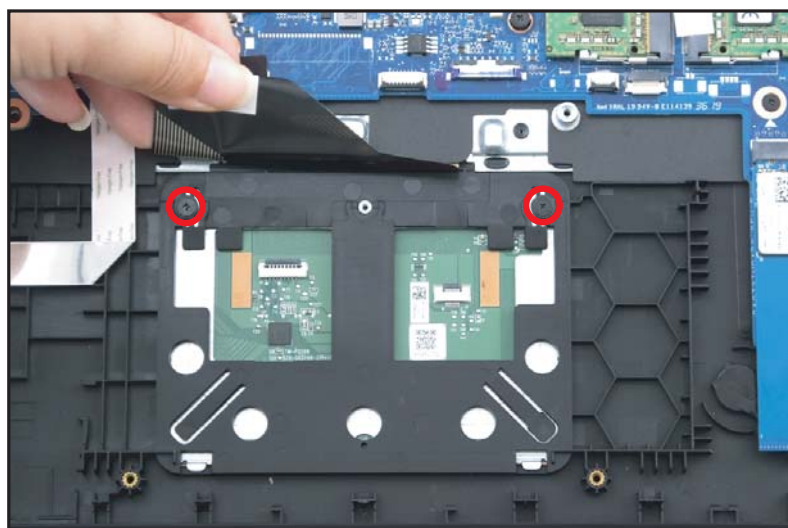

Figure 1-100. Replacing the Touchpad Module
3. Install and secure two (2) screws to the touchpad module (Figure 1-100).